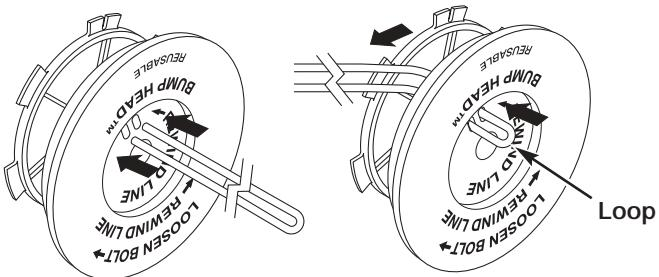

Figure 35
6. Take approximately 40 feet (12.2 m) of new trimming line, loop it into two equal lengths. Insert each end of the line through one of the two holes in the inner reel. See Figure 35. Pull the line through the inner reel so that the loop is as small as possible.